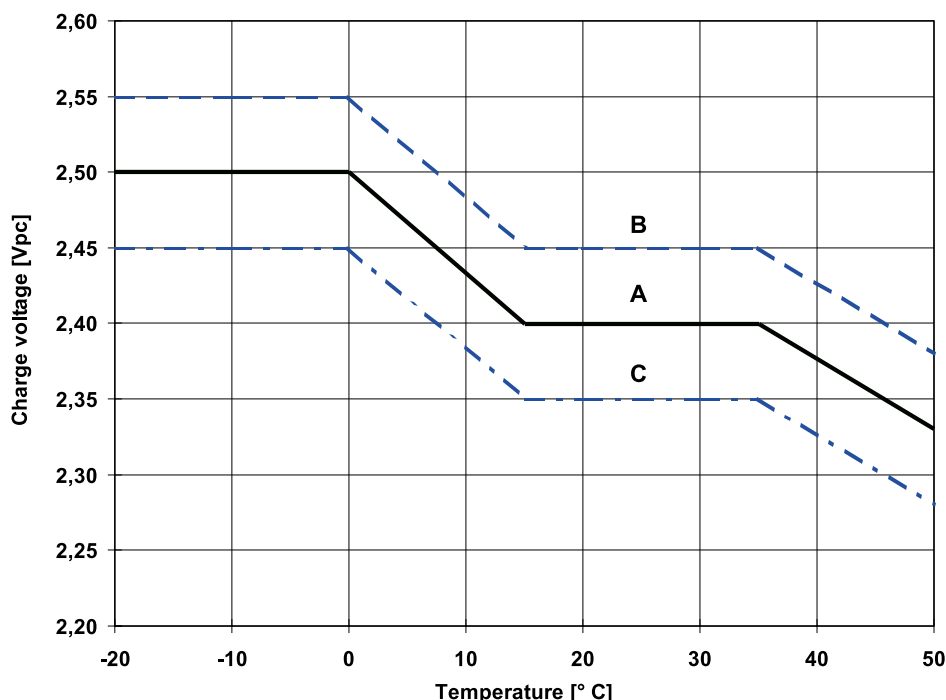

Fig. 1: Charge voltage vs. temperature for solar mode. Charge modes:
Recommended charge voltages for cyclical application: See fig. 1 and item 2.8.
I-phase = up to voltage acc. to fig.1 at 20 °C
I-phase = up to voltage acc. to fig. 1 at 20 °C
When recharging acc. to fig.1 the actual value of the alternating current is occasionally permitted to reach 10 A (RMS) / 100 Ah C_{10} -capacity. In a fully charged state during float charge the actual value of the alternating current must not exceed 5 A (RMS) / 100 Ah C_{10} -capacity.
The temperature related adjustment has to be carried out acc. to fig. 1. An adjustment of the charge voltage must not be applied within a temperature range 15 °C to 35 °C.